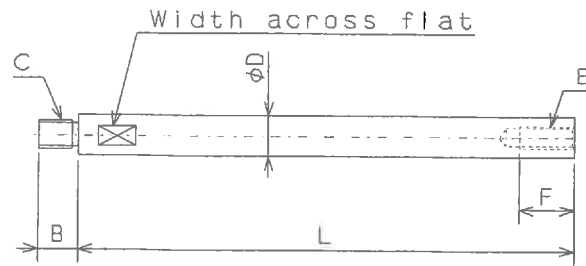

Fig.20
The dimension L in Fig.20,21 is determined from the distance A between the cylinder adapter and the back plate.
- Keep the dimension D in Fig. 20 for the draw bar and a material with the tensile strength 380MPa (38kgf/mm²) or more must be used.